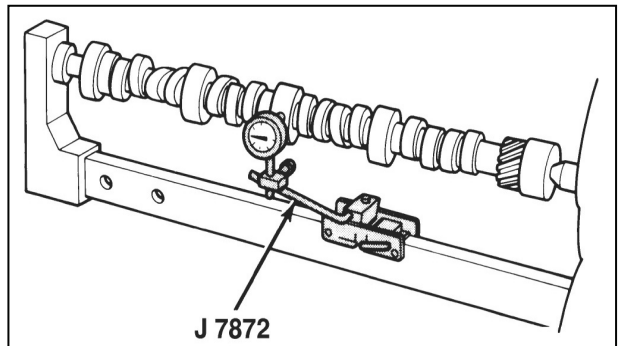

Figure 12-42 Measuring Camshaft Runout
- Camshaft runout (figure 12-42). Mount the camshaft in V-blocks or between centers. Using J 7872, check the intermediate camshaft journal. Compare camshaft runout with "Specifications". If the camshaft is excessively bent, replace the camshaft and camshaft bearings.